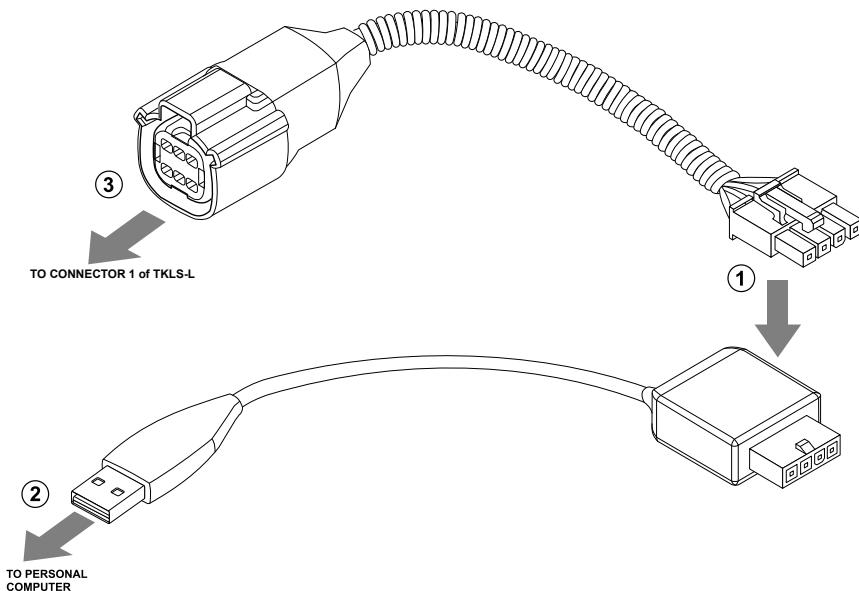

Fig.1. Connection to TKLS-L.
- connect the 4-pin connector of TKLS-Prog-232 converter to the 4-pin connector of the adaptor (see Fig.1, step 1);
- connect TKLS-Prog-232 to PC (Fig.1, step 2);
- connect free end of the adaptor (Molex connector) to TKLS-L sensor (Fig.1, step 3);